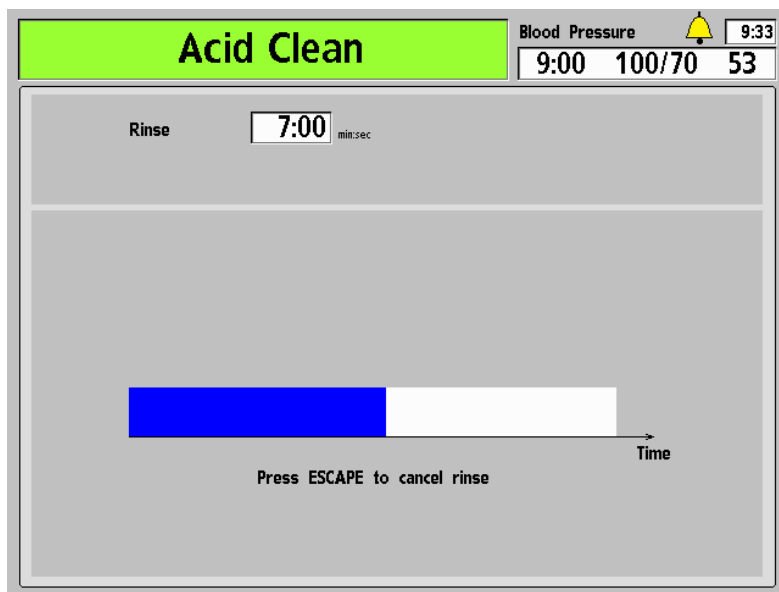

Figure 93 – The Acid Clean Screen
5. Press **CONFIRM** to start the Acid Clean program. The “Acid Clean” screen appears in the display (see Figure 93). The progress of the acid cleaning is indicated by the horizontal bar.
5. Press **CONFIRM** to start the Acid Clean portion of the program. The “Acid Clean” screen appears in the display (see Figure 93 – The Acid Clean Screen). The progress of the acid cleaning is indicated by the horizontal bar.